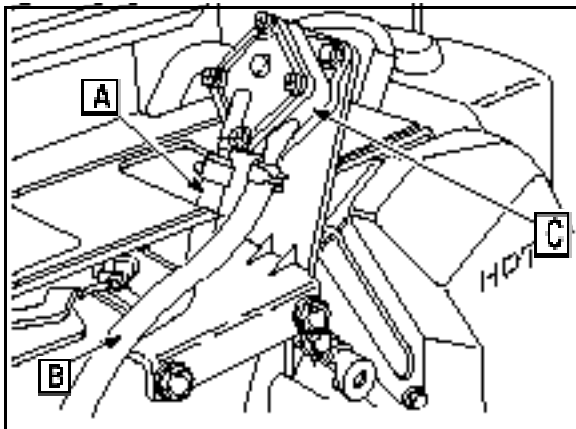

Fig. 16
- Disconnect vacuum line (A) and fuel line (B) to the fuel pump (C) Fig. 16)